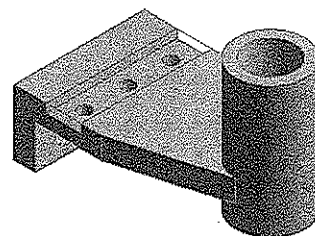

Figure 7-40 Preview of the fill feature displayed in the Graphics screen
7. Choose the **Generate** tool from the **Features** toolbar to create the fill feature; the preview of the fill is displayed in the Graphics screen, as shown in Figure 7-40.